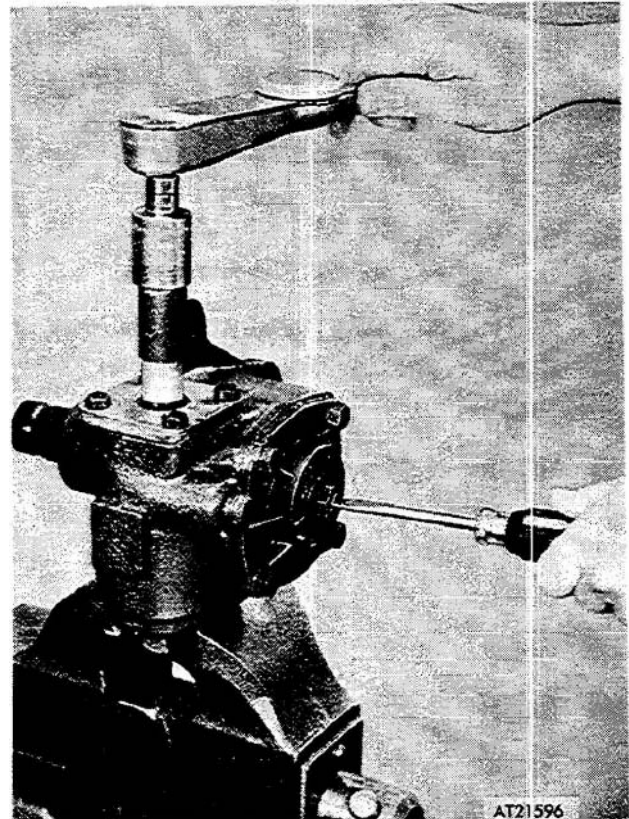

Figure 3-223. Adjusting rear steering gear box.
(1) Center shaft in steering gear box by rotating worm gear and counting revolutions.
(2) Using a suitable inch-pound torque wrench and adapter, rotate worm gear shaft and note preload in center position (fig 3-223). Preload should be 15-29 lbs-in., if not, adjust preload by performing (3) and (4) below.